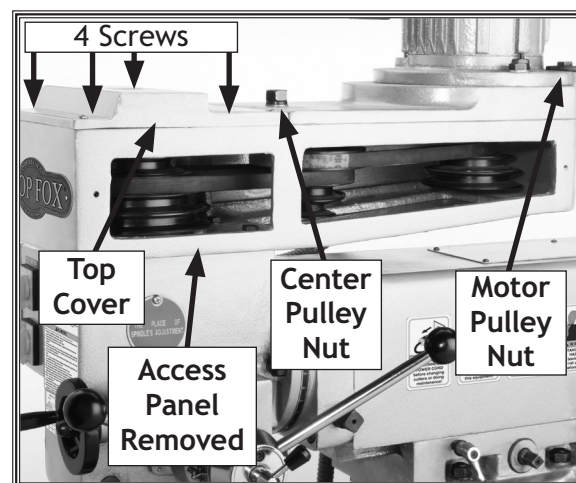

Figure 51. Vertical spindle pulley access for belt replacement.
4. Remove the four Phillips head screws on the top cover (See **Figure 51**), and remove the cover.